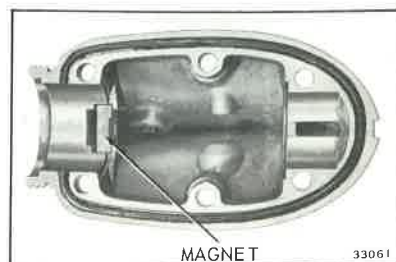

Figure 6-16A. Gearcase Magnet
- a. Clean all parts with cleaning solvent such as Solvasol and dry with compressed air. Remove collected particles from magnet in gearcase skeg. See Figure 6-16A.